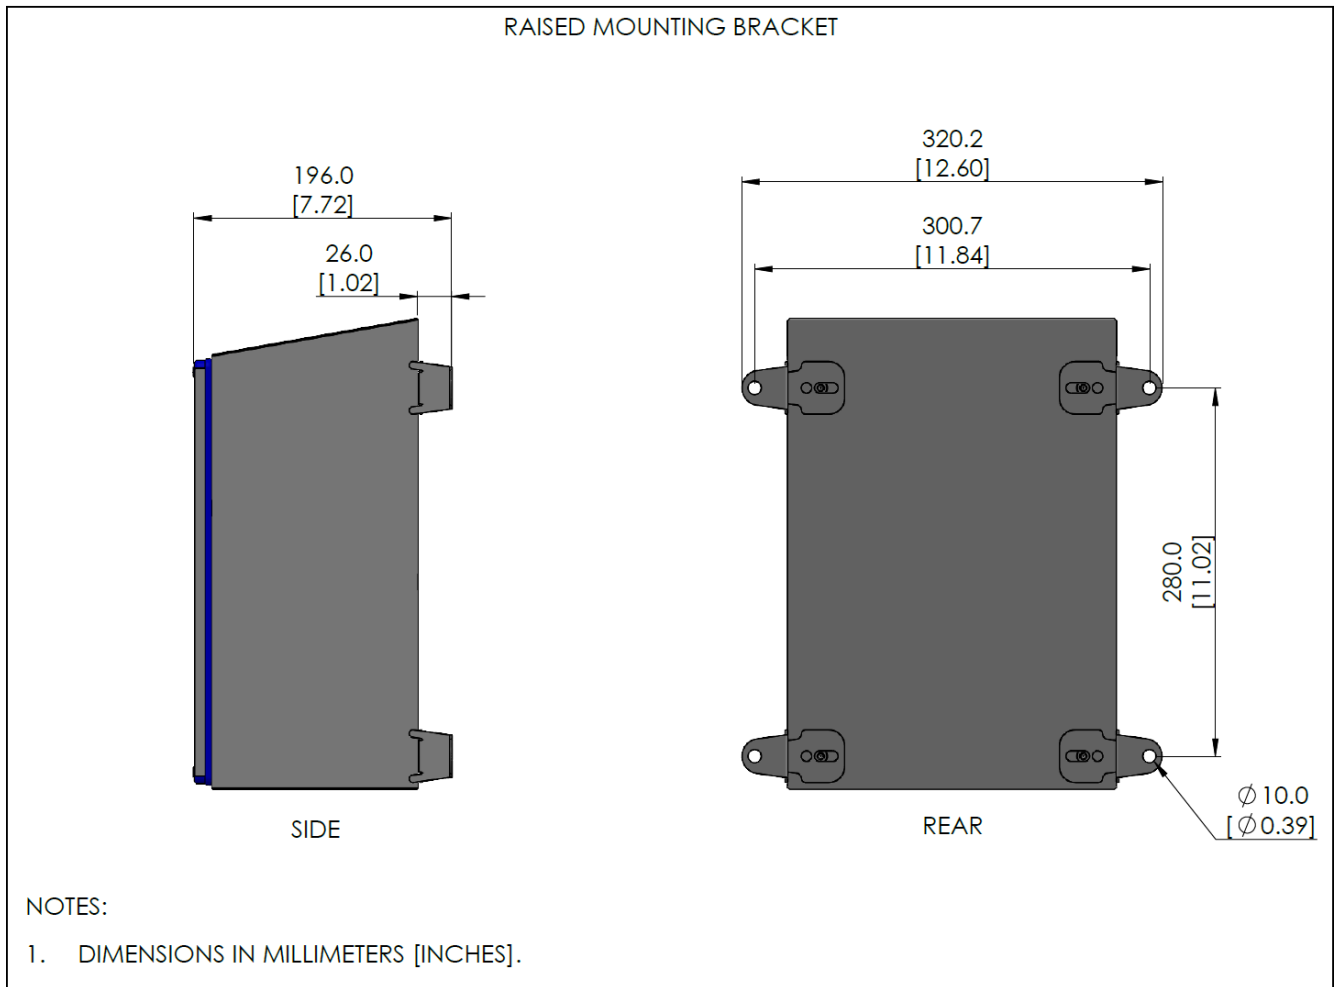

FIGURE 25. AC5000-MNT-03 Raised Mounting Bracket.
- AC5000-MNT-03 .....Stainless steel, raised style, 1" standoff, kit of 4. See Fig. 25.
- (1) GFCI Class A 208V option is available for all models. GFCI Class A 240V option is available for the 80A and 100A models only.
- (2) 240V option is available for the 80A and 100A models only.
- (3) All SB5000 models include a 1N5339B Termination Device.